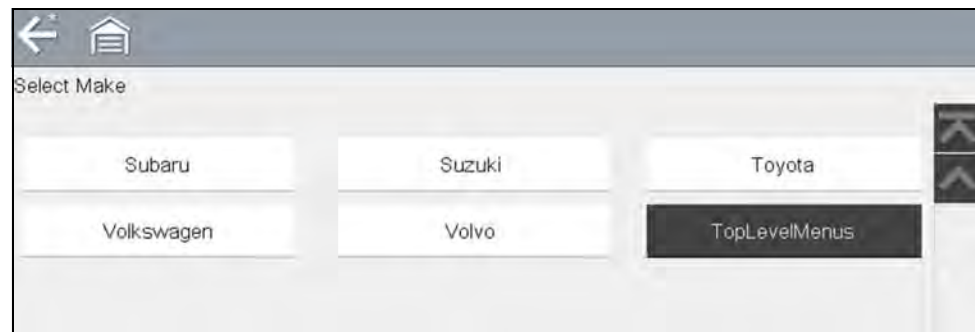

Figure 10-1 Training and Classes
2. Select **Training and Classes** from the Vehicle Make menu (Figure 10-1) to access the menu options.